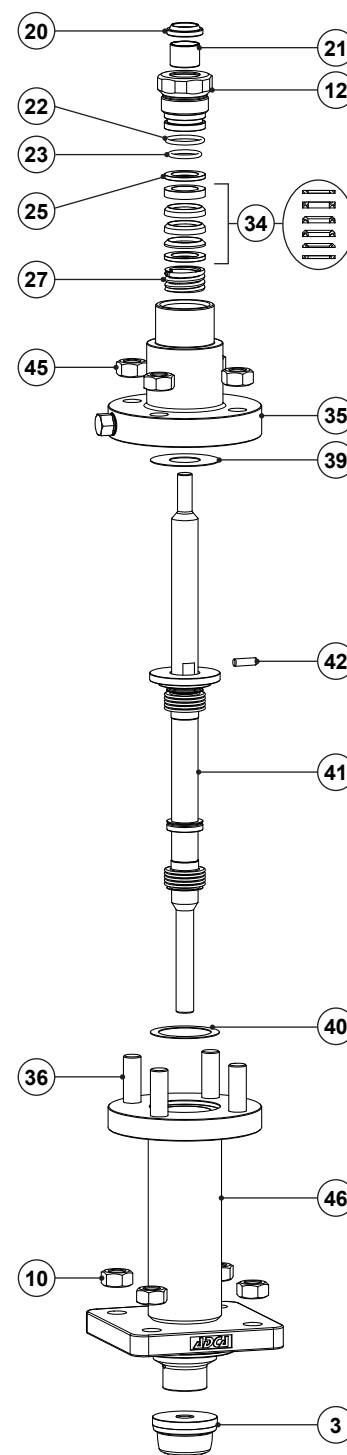

Fig. 12 - Bellows sealing (BV1)
1. Undo the nuts (45) gradually in a crisscross pattern and separate the bellows bonnet (35) from the bellows housing (46).
2. Unscrew the gland nut (12) and remove it carefully together with the O-rings (22, 23).
4. Apply a suitable lubricant to all steam sealing components and carefully slide them into the packing box according to Fig. 12.
5. Renew the scraper ring (20), plain bearing (21) and O-rings (22, 23) if necessary. Fit the O-rings (22, 23) and the gland nut (21), screwing it loosely.
6. Undo the nuts (10) gradually in a crisscross pattern and separate the bellows housing (46) from the valve body (1).
7. Firmly fix the valve plug (3) on a vise, fit a wrench on the two slits close to the locking pin (42) and unscrew the plug (3) from the stem (7).
8. Remove the valve stem (7) with the bellows (41) from the bellows housing (46).
10. Fix the new valve plug (3) on a vise with the thread facing up. The vise jaws should be gripping the plug section with the largest diameter.
11. Fit a new gasket (39) and insert the new bellows (41) on the bellows housing (46).
12. Apply a suitable high temperature adhesive compound on the lower stem (7) thread and screw it onto the seat, tightening with 50 Nm (DN 15 to 50 – 1/2" to 2") and 120 Nm (DN 65 to 100 – 2 1/2" to 4").
13. Insert the pin (42) onto the stem (7) and fit a new gasket (39).
14. Align the center of the bellows bonnet (35) with the stem (7), sliding it carefully while aligning the pin (42) with the slit.